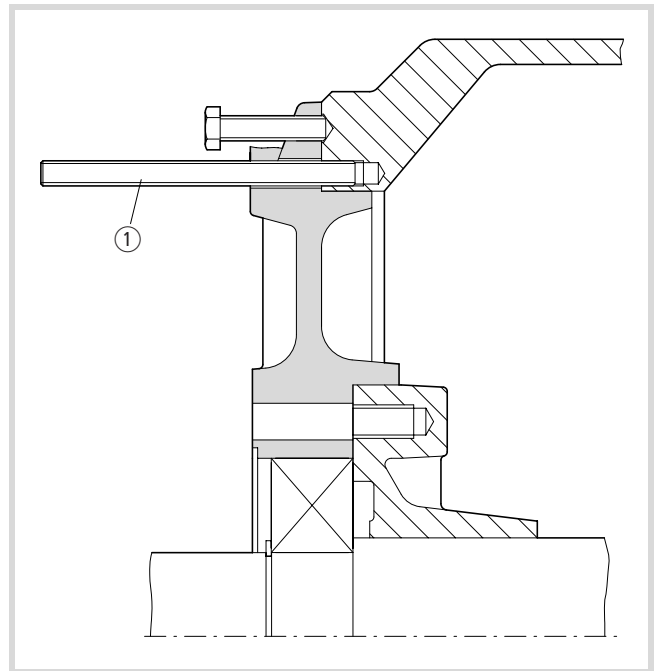

Figure 10: Forcing the end shield from the bearing
- ▶ Secure the end shield, for example, with threaded rods ① in the screw holes.
- ▶ Use the forcing-off thread holes to force the end shield from the housing spigot recess and from the roller bearing (→ Fig. 10).